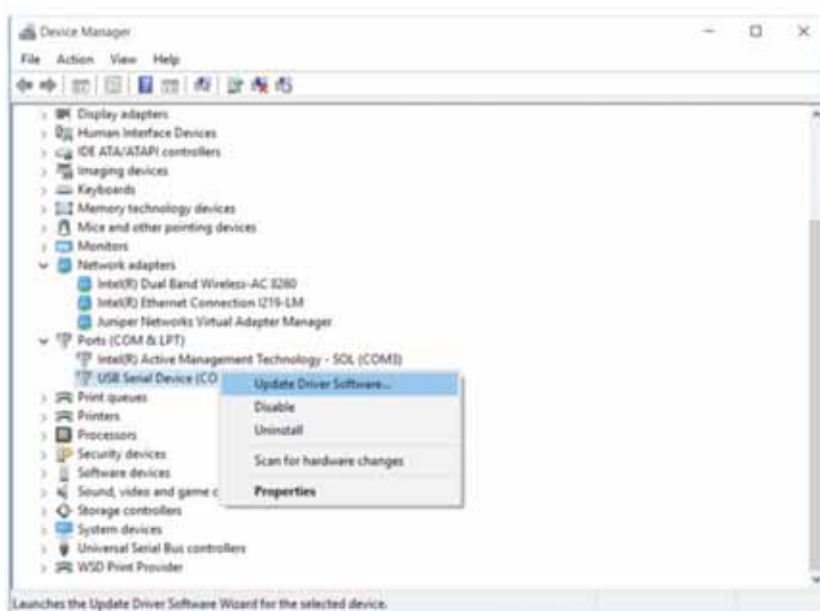

Figure 7. Device Manager Window
- Expand **Ports (COM & LPT)** and select **USB Serial Device** (see Figure 7).